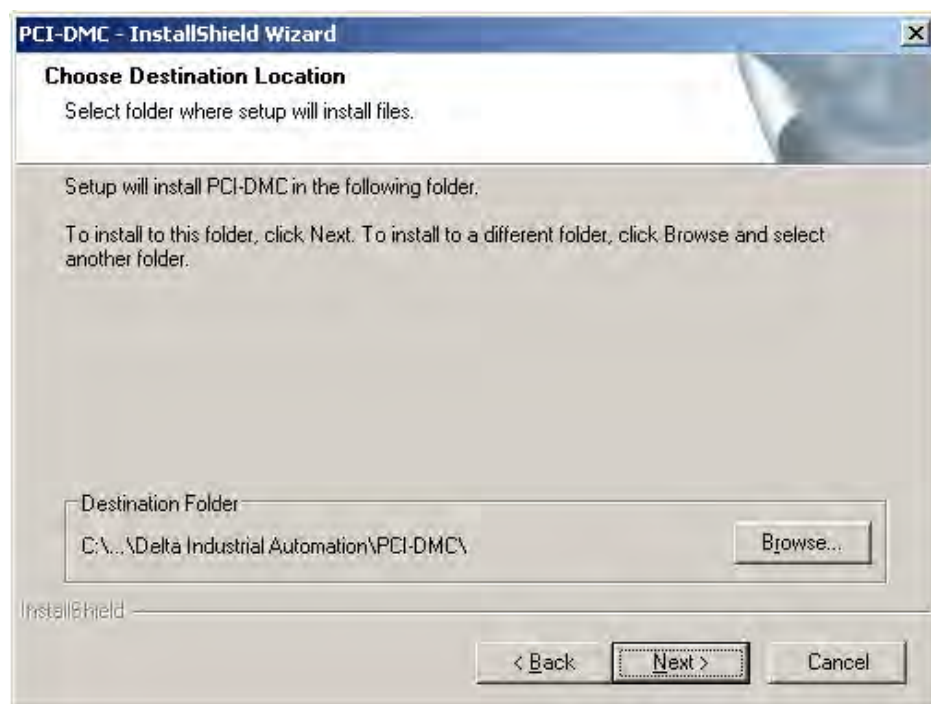

Figure 2.16
Step 4: As shown in Figure 2.16, select the software installation path to use on the system. Using the default path is recommended. Please click on "Next" to continue.